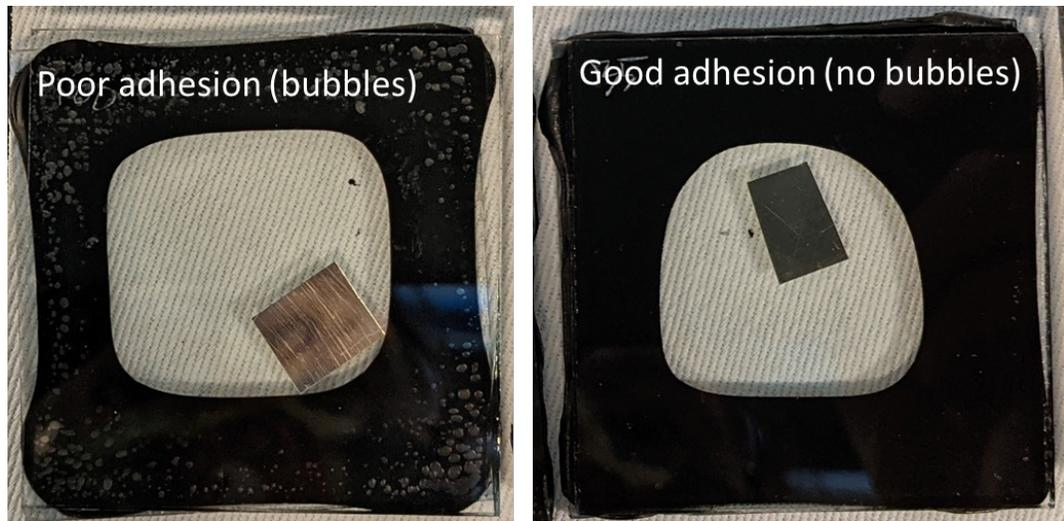

Figure 4: Photos of pressed package showing poor and good adhesion. PIB should "flow" when pressed, and have no bubbles
- Figure 4 compares a successful press to an unsuccessful press. No bubbles should be present in the PIB after pressing.